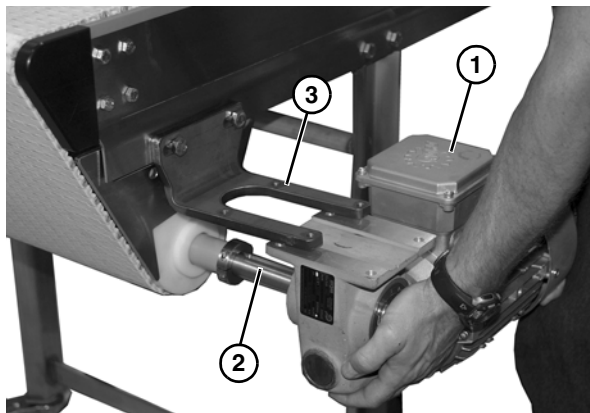

Figure 19
8. Slide the gearmotor assembly (**Figure 19, item 1**) onto the drive spindle (**Figure 19, item 2**) and below gear reducer mounting bracket (**Figure 19, item 3**).